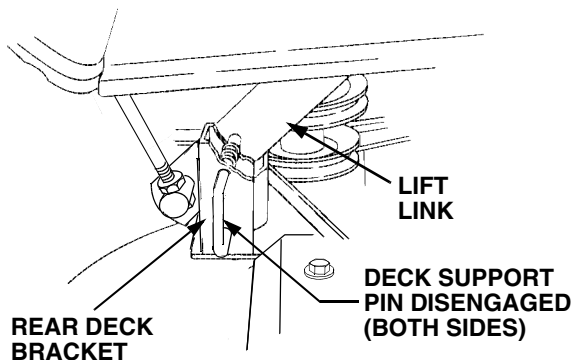

Figure 44
7. Pull the deck support pins outward, turn downward and release so both spring-loaded pins are held in the disengaged position against the outer surface of the deck brackets (Refer to Figure 44).